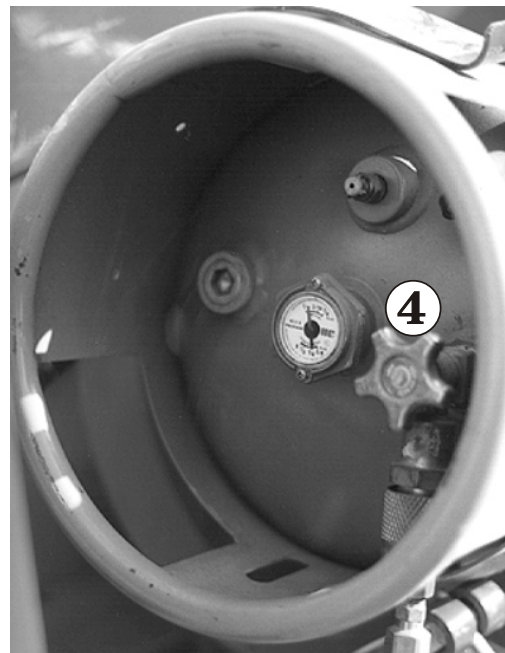

Figure 8.12
Completely open the valve ❹ (see Figure 8.12) on top of the LP tank (unscrew counterclockwise until it stops).